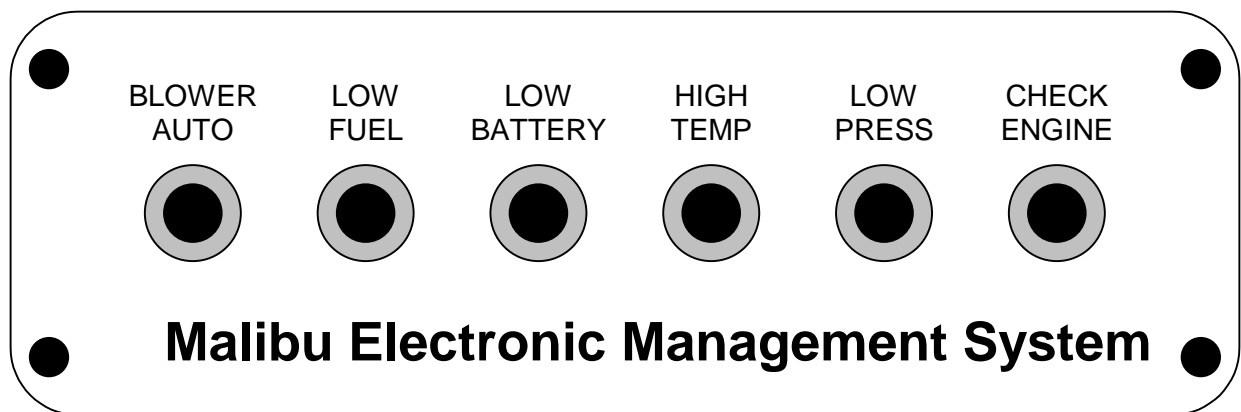

Figure 2 – M.E.M.S. Indicator Panel
M.E.M.S. Indicator Panel (Figure 2)